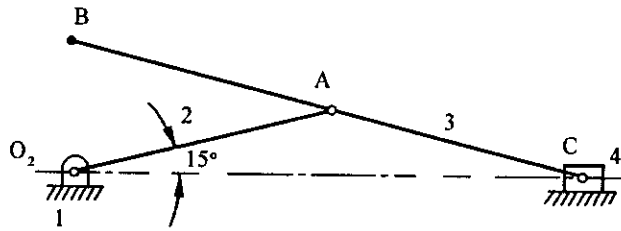

Fig. 3.40
9. For the straight-line mechanism shown in fig. 3.40, $\omega_2 = 20$ rad/s clockwise and $\alpha_2 = 140$ rad/s² clockwise. Determine the velocity and acceleration of point B and the angular acceleration of link 3. Take $O_2A = AB = AC = 100$ mm.